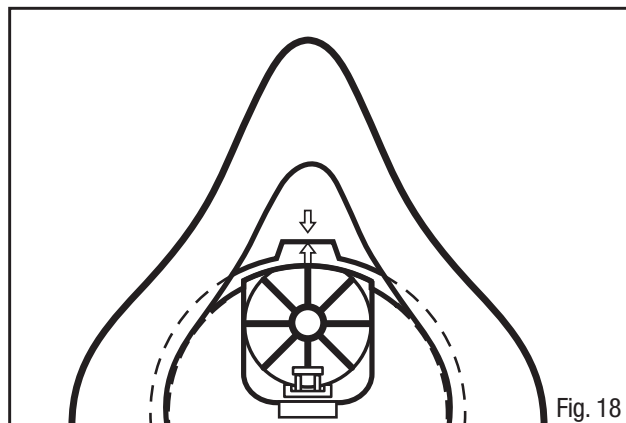

Fig. 18
2. To replace, position nose cup assembly onto center adapter aligning arrows (Fig. 18).